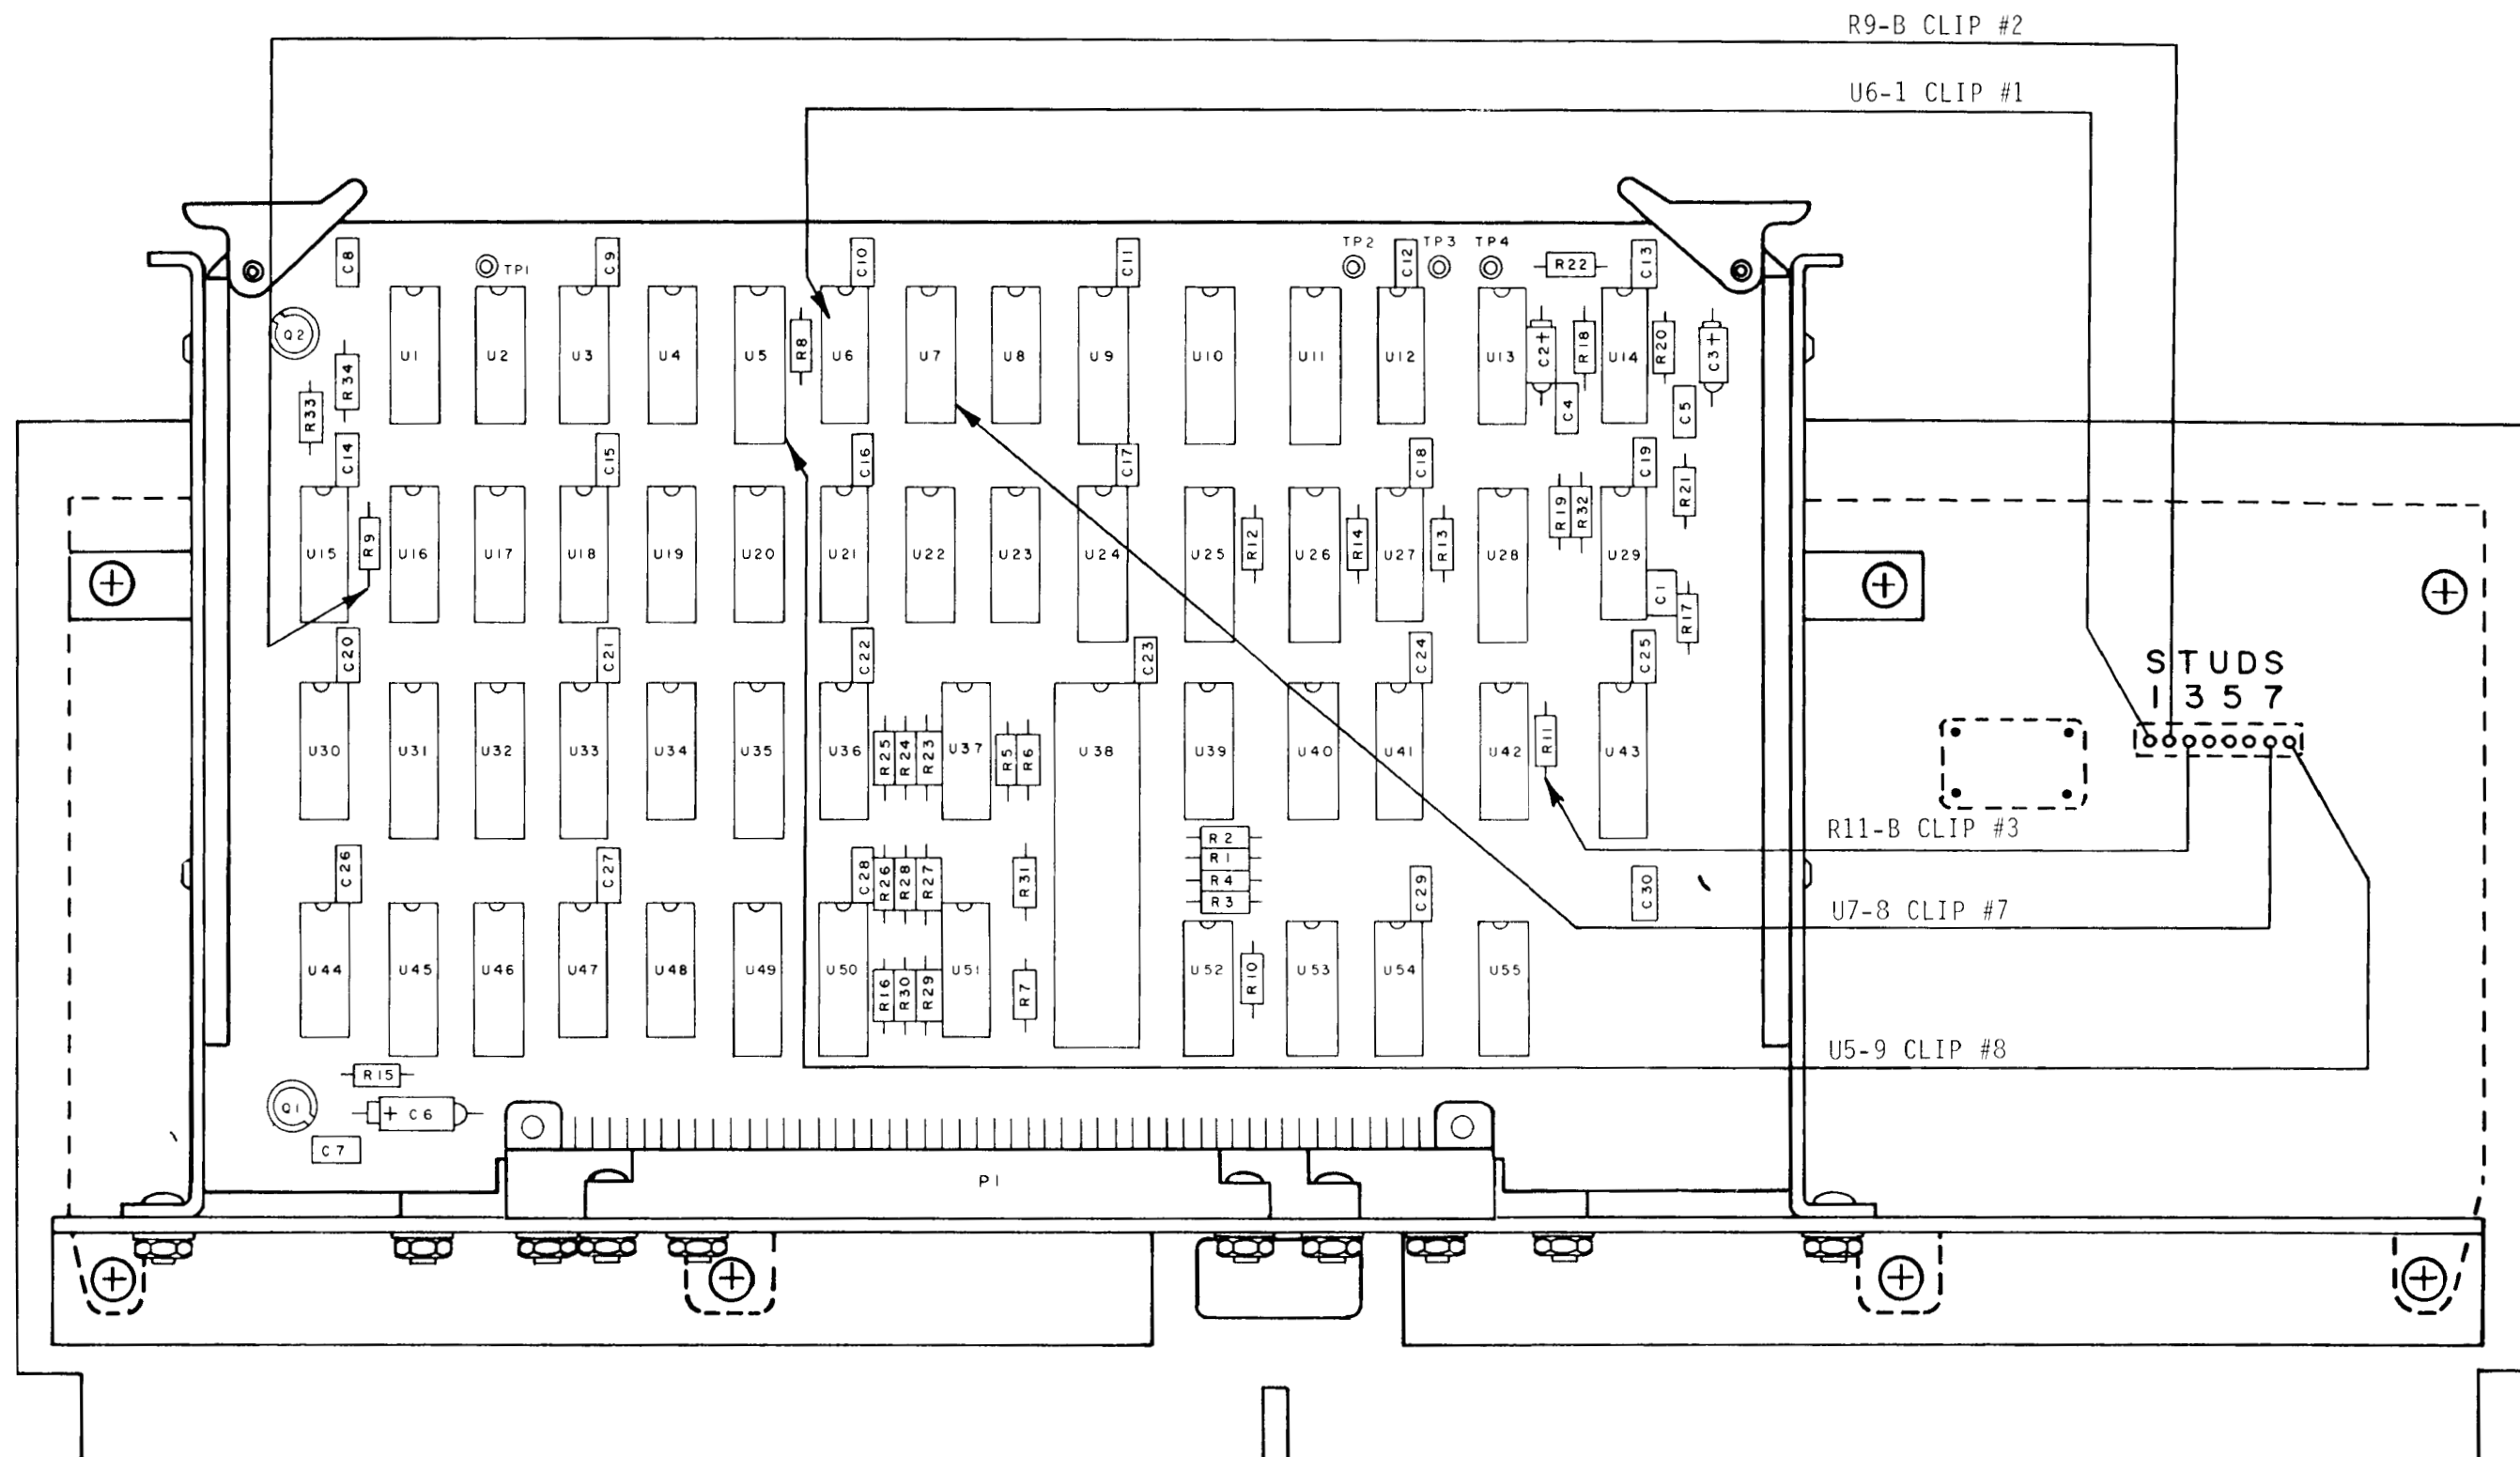

Figure 2-2.
(8) Attach test clips as shown in figure 2-2.